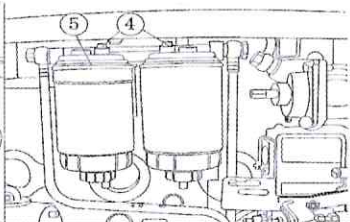

Figure 2-3
- b. Loosen the air bleed screw 4 on the fuel filter 5 (figure 2-3). Operate the hand pump on the fuel delivery pump until there is diesel fuel overflows and then tighten the air bleed screw.